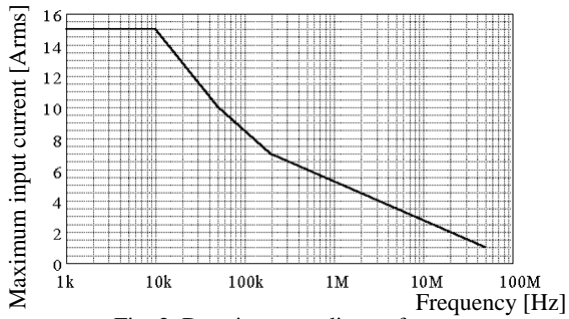

Fig. 2 Derating according to frequency
Maximum current	With InfiniiVision Series: 15A peak(DC+ACpeak), 15 ADC, 10 Arms continuous Max. peak: 30A peak non-continuous (when two probes are used) 30A peak(DC+ACpeak), 30 ADC, 24 Arms continuous Max. peak: 32A peak non-continuous (when one probe is used)  With Infiniium Series: 15A peak, 15 ADC, 10 Arms continuous, 30A peak non-continuous (per each channel) (Refer to frequency derating curve, Fig. 2)
- The maximum continuous input range varies according to the frequency of the current being measured. See figure 2 in “Characteristics and Specifications”